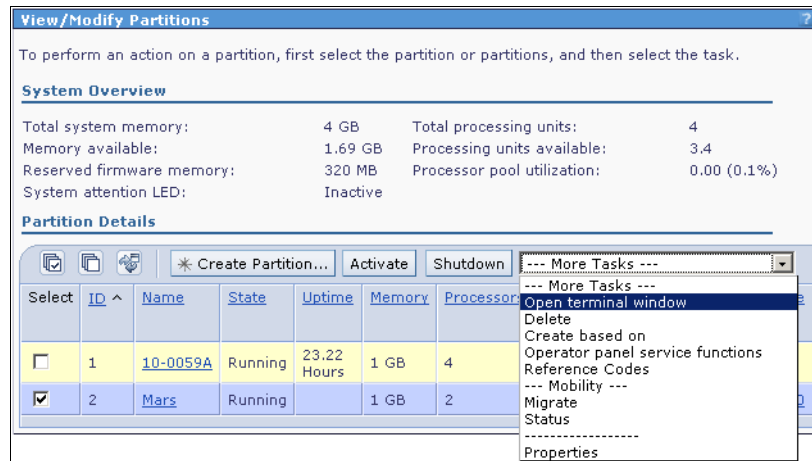

Figure 6-29 Open a virtual terminal to the partition
3. The status of the partition has changed to *running*. Select **Open Terminal** from the More Tasks drop-down list box to open a terminal connected to the selected partition. See Figure 6-29.